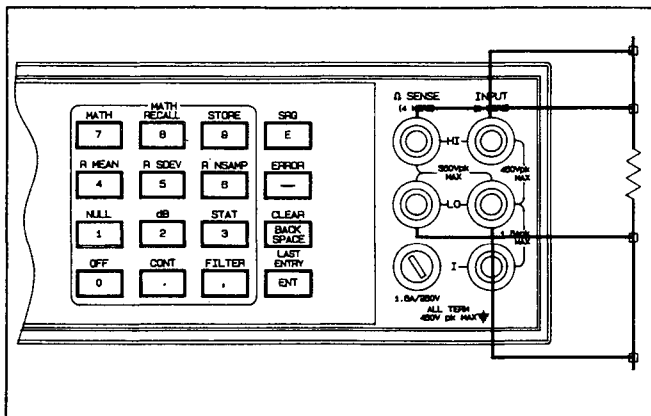
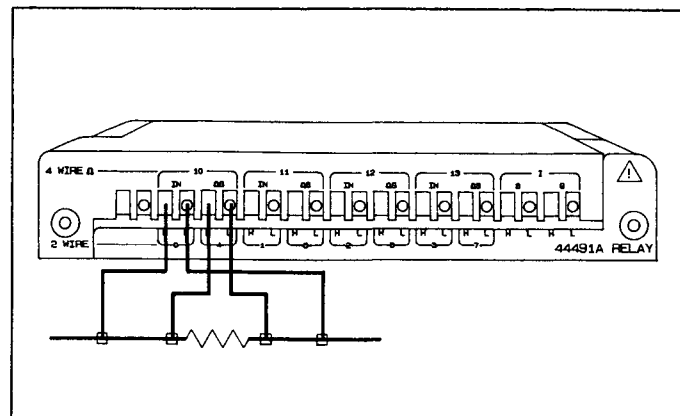

Figure 3-1. Front Panel Connections
Figure 3-2. Plug-In Connections
**3-23. Input Connections.** For 2-Wire Ohms measurements, the unknown resistance is connected to the INPUT HI and LO terminals. This applies to both front and rear terminal operation. When using one of the optional Plug-In assemblies, the input would be connected to the HI and LO inputs of a particular channel. For 4-Wire Ohms measurements, the unknown resistance is connected to the INPUT HI and LO terminals and to the  $\Omega$  SENSE HI and LO terminals as shown in Figure 3-1. When using the HP 44491A General Purpose Multiplexer assembly, the unknown resistance is connected as shown in Figure 3-2.